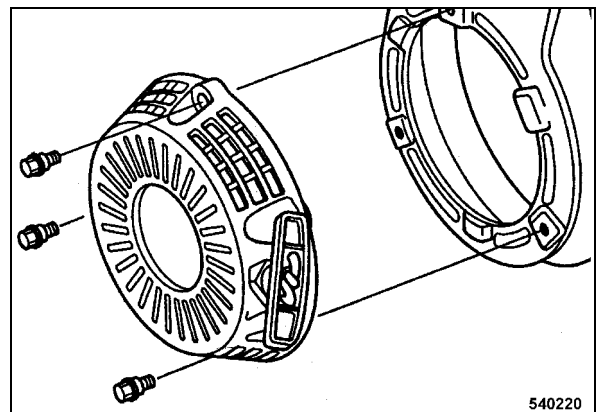

Fig. 46
- Remove the recoil starter (Fig. 46).